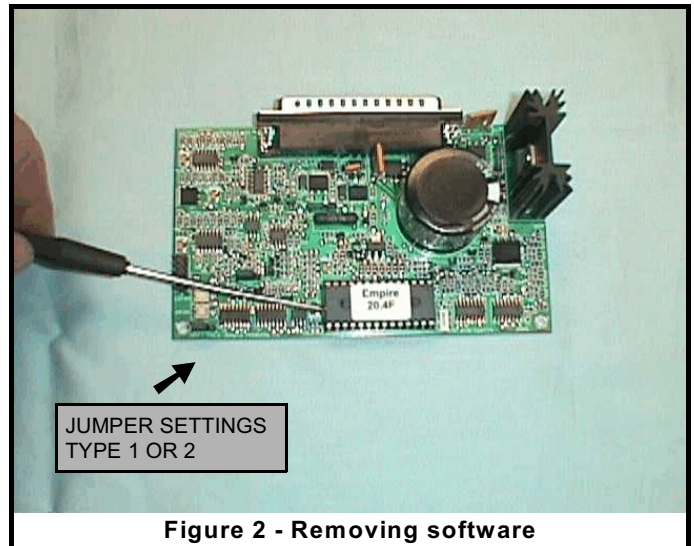

Figure 2 - Removing software
- 4) Using small flat blade screw driver carefully insert under chip between base. Lift chip a small amount then go to other side and complete same (**Figure 2**). Continue until chip is free of socket base.
All control function remain the same. The stove will require proper settings. Two key adjustments are required including Jumper and Fan Speed (**Figure 2**).